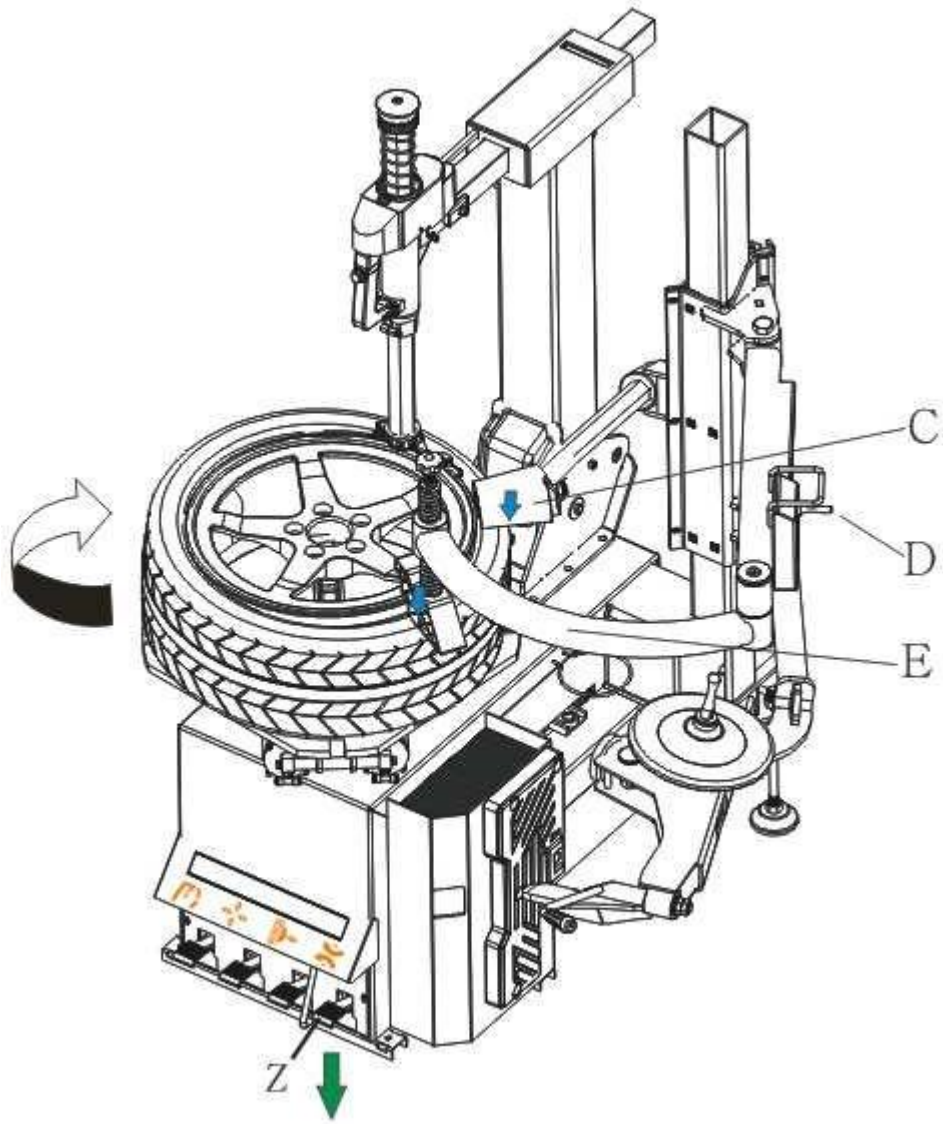

Fig. 13
- Raise the assistant arm use the switch D, move the roller C upon the tyre, turn the arm E to make the block at the position as in Fig.13. Turn down the arm and make the tyre bead under the mounting head with the roller C, in the meanwhile adjust the arm E and press the tyre bead into rim with the block, in order to reduce abrasion(Fig. 13)
- Press the pedal Z and turn the working plate, the block also followed the rotation accordingly, until fit on the upper bead with the help of mounting head.(Fig. 13)
⚠️Note: In case that stuck during the operating, please stop immediately to avoid any damage on the tyre. It is necessary to “raise”(move upwards) the inverter pedal(Z) making the chuck rotate in an anti-clockwise direction. Readjust the place of the roller and block, operate again according to the way in Fig. 13.